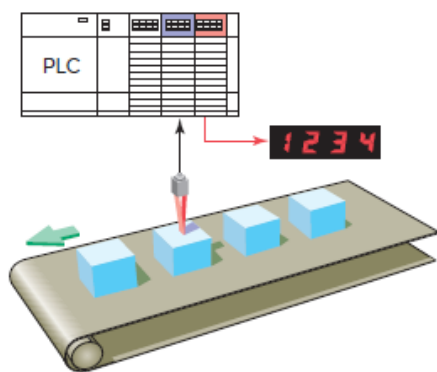

Figure 8-3 Counter application.
- One common counter application is keeping track of the number of items moving past a given point as illustrated in Figure 8-3.